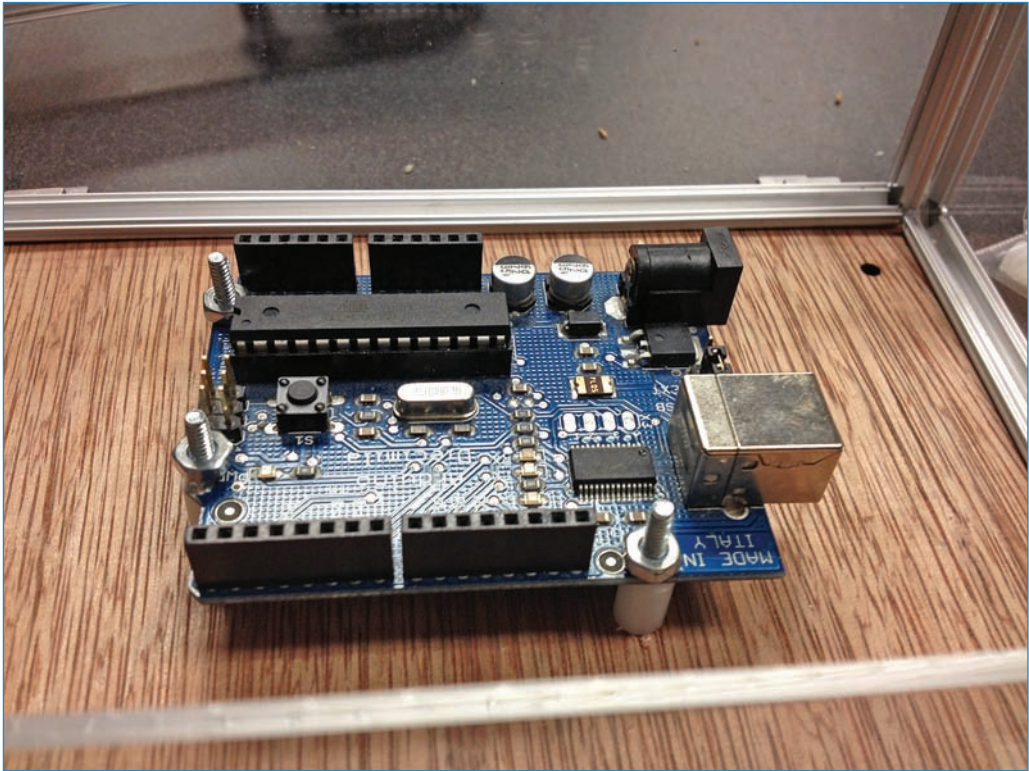

FIGURE 3.32 The standoffs and screws keep the Arduino positioned correctly.
6. Attach your Arduino to the base. If you're planning ahead, you can laser cut the screw-holes. If you forgot, like me, then place the Arduino on the base and use a pen to mark where the holes on the Arduino's PCB are located. Drill holes. Then, thread your #4-40 machine screws through the base and add the 3/8-inch standoffs. Place the Arduino on the screws and then tighten the nuts. When you're done, it should look just like Figure 3.32.